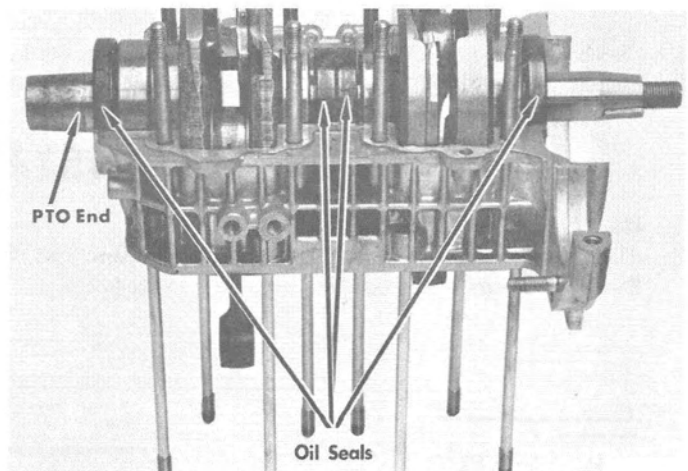

Figure 7. Crankshaft Installation
3. Place crankshaft assembly in upper crankcase half. Be sure that retainers are properly positioned between seals and bearings. (Figure 7)